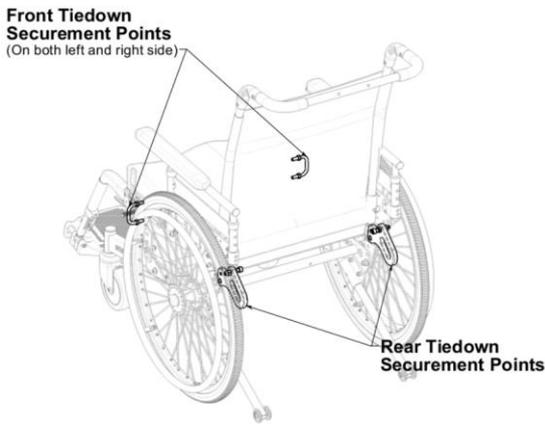

Figure 13.2: Eclipse Transit Tiedown 4 point securement location
4. The Eclipse Transit Tiedown System is designed for a four-point (two in the front, two rear) strap-type tiedown system (Figure 13.2). Attach the WTORS in accordance with the manufacturer's instructions and RESNA WC-4:2012, Section 18 or ISO 10542-1:2012- Part 1.